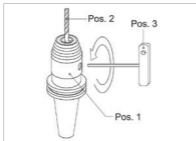

Figure 7: Loosing clamping jaws
1. Loosen the clamping jaws by turning the pinion with **3 to 7** turns wise using the appropriate hex-wrench (see "Figure 7: Loosing clamping jaws").